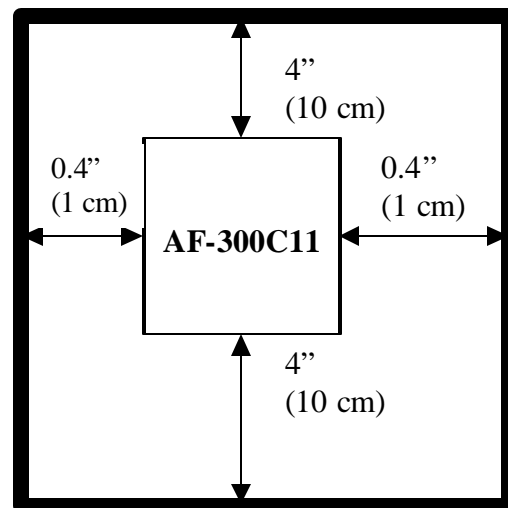

Figure 2-2-1 Installation direction and surrounding space
- ① Tightly fasten the product in the upright position on a strong structure using four bolts (M4) with the characters AF-300C11 facing the front. Be sure not to turn the product upside down, and install it on a horizontal surface.
- ② Heat is generated while the drive is operating, so the gaps shown in Figure 2-2-1 are necessary for the passage of cooling air. The generated heat is radiated upward by the built-in cooling fan, so do not install this product below a device that is sensitive to heat.
- ③ The temperature of the heat sink increases to about 90 °C while the drive is operating. Therefore, the surface behind where the product is located must be able to withstand this temperature increase.